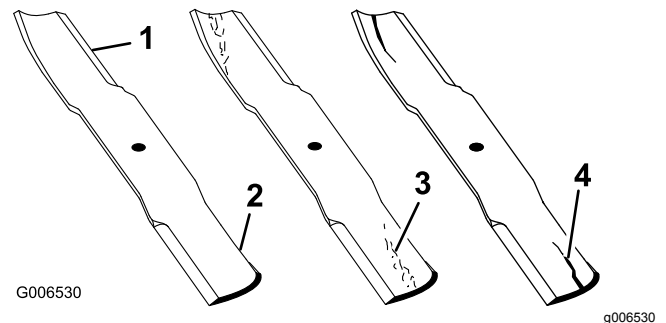

Figure 62
2. Inspect the cutting edges (Figure 62).
4. Inspect the blades, especially the curved area (Figure 62).
5. If you notice any damage, wear, or a slot forming in this area (Figure 62), immediately install a new blade.